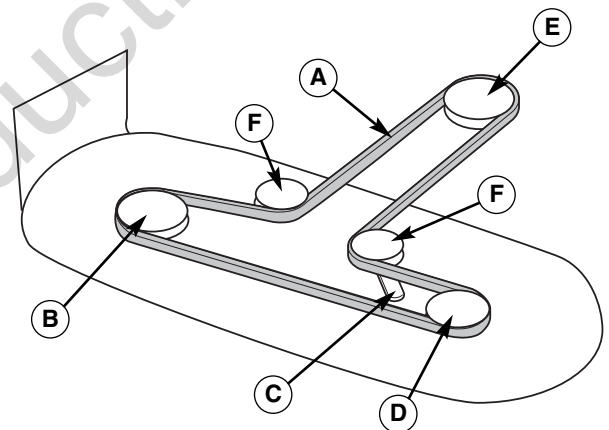

Figure 58. Mower Belt Routing - 42" Decks
2. Use the idler pulley arm (C, Figure 58) to release belt tension and remove the mower drive belt (A) from the PTO pulley (E).
4. Install the new belt (A) as shown in Figure 58.